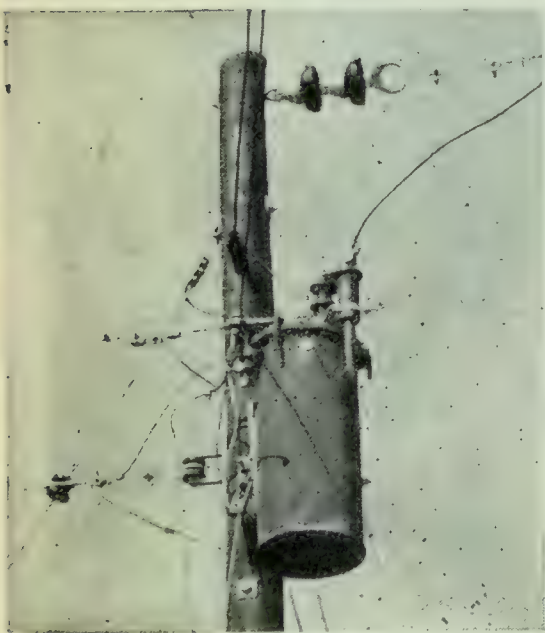

FIG. 418. A pole transformer (Westinghouse photo)
**H**OW DO TRANSFORMERS CHANGE THE VOLTAGE OF A CURRENT? The device used to change the voltage of a current is called a *transformer*. You probably have seen a black box on one of the electric-light poles near your home. In this black box is a transformer (Figure 418). Travelling through the country you may have seen the transformers used for long-distance transmission of electricity. The small black box used to operate an electric train also contains a transformer.